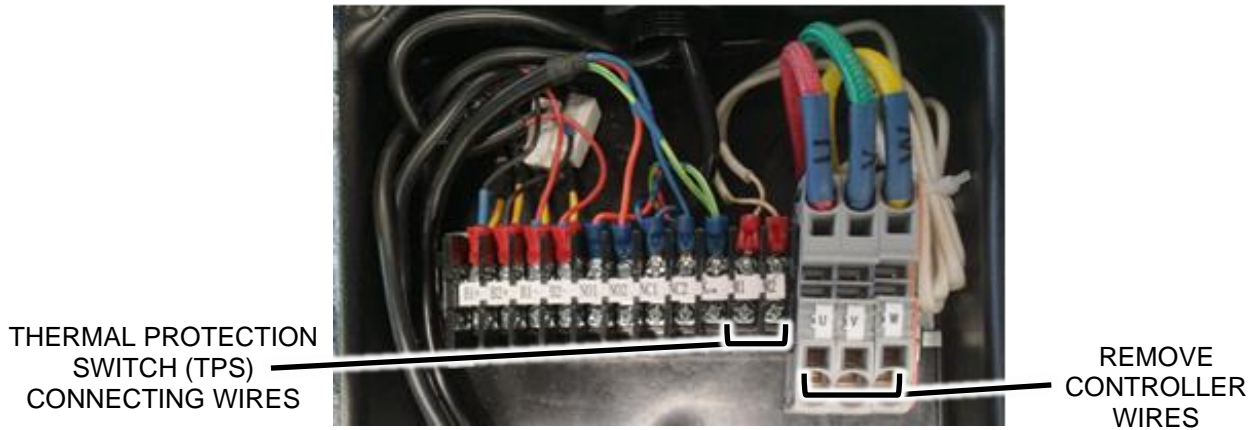

Figure 38
2. Disconnect machine power, see Figure 38.